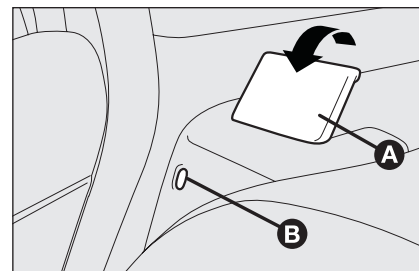

fig. 92
Lift the seat backs and push them backward until both coupling mechanisms click in place, check that the "red band" **B-fig. 92** at the side of levers **A** is no longer visible.
*Make sure the seat back is correctly hooked on both sides ("red bands" **B-fig. 92** not visible) to prevent seat back being thrown forwards and injuring passengers should you brake sharply.*